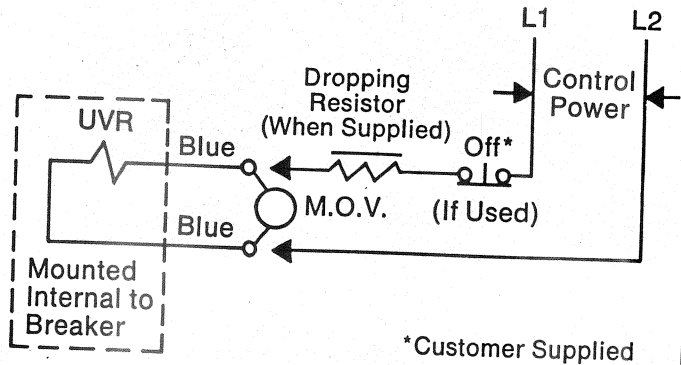

Fig. 3. Wiring Diagram
- Mount the dropping register (when supplied) and M.O.V. (Fig. 2). Wire as shown in Fig. 3.